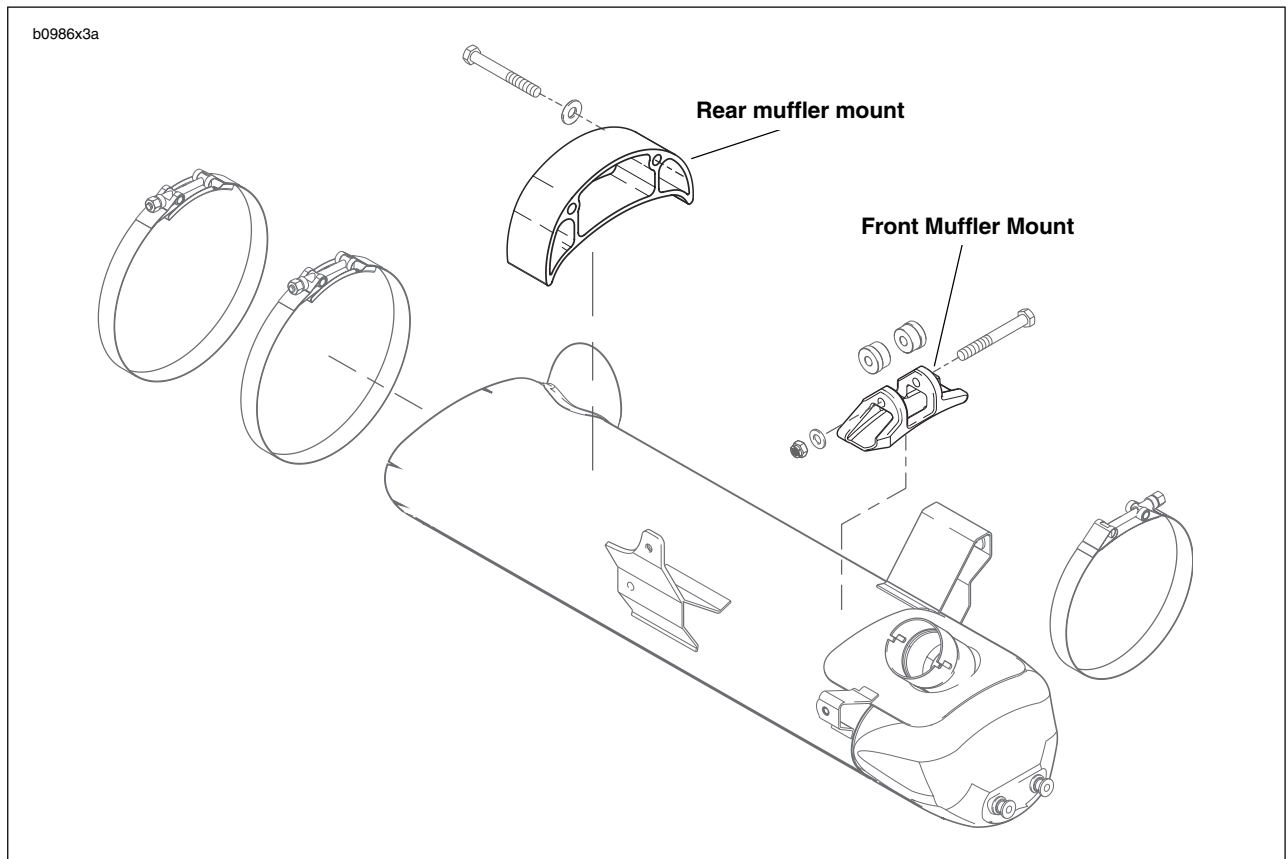

Figure 3-46. Muffler Mounting System
19. See Figure 3-46. Install rear muffler bracket and torque to 32-36 ft-lbs (43.4-48.8 Nm).